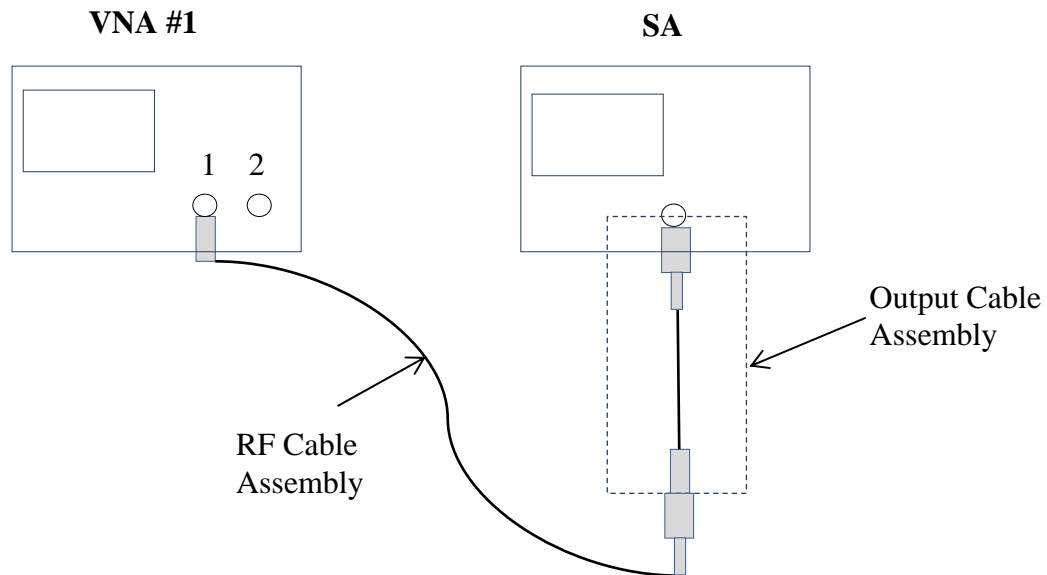

Figure 6: RF Input Power Measurement Setup
2. Connect the output cable assembly between the SA and the RF input cable assembly, the setup is shown below in Figure 6.